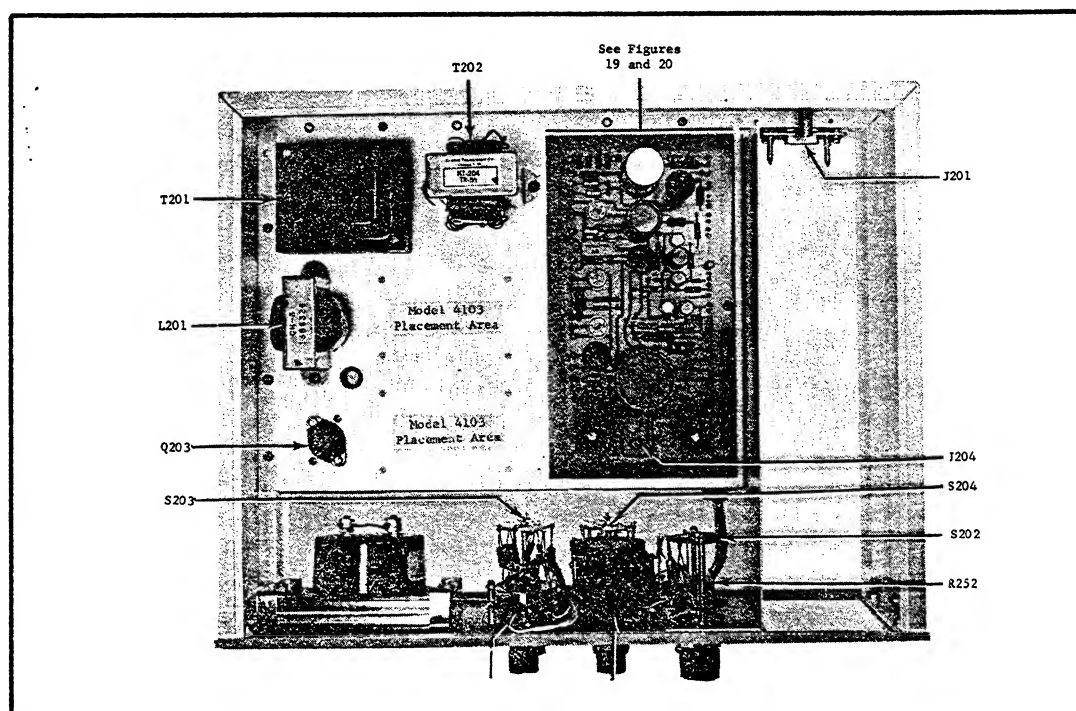

FIGURE 19. Top View of Model 417 Chassis. Circuit designations are for Replaceable Parts List.
1. Connect the Model 662 Voltmeter to the internal test jack J204 (Figure 19) and to chassis ground.
FIGURE 18. Top View of Model 417. Refer to Figure 19 for location of components on main chassis. Equivalent components of Model 416 are located in the same location as on the Model 417.